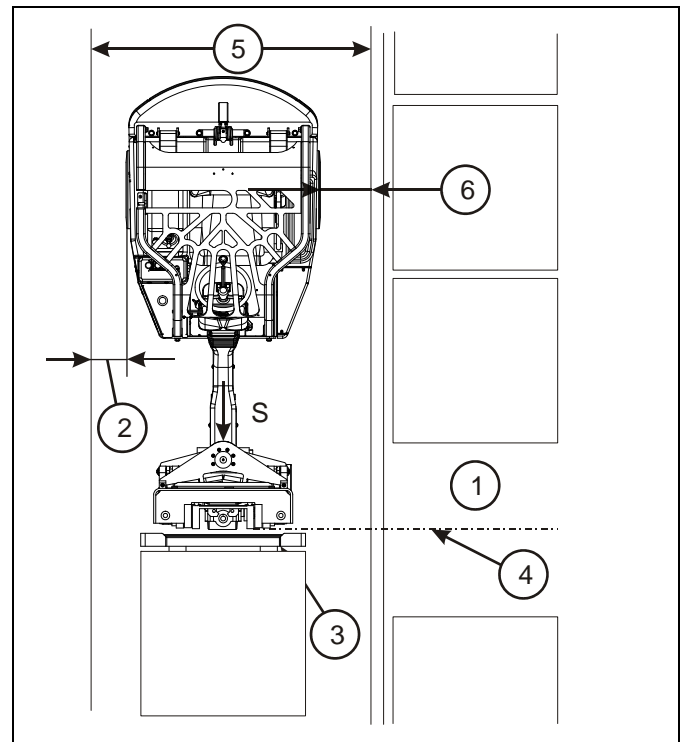

Figure 4-20: Setup - Delivering a Load
Actual minimum aisle width may vary based upon application. Item 5 - See Figure 4-20.
1. Approach the side of the aisle that is opposite the area where you will unload the forklift. Item 1 - See Figure 4-20. For narrow aisles, straighten out the truck so it is 6 in. to 8 in. from the edge of the aisle opposite the drop off point. Item 2 - See Figure 4-20.
2. For wide aisles, straighten out the truck so it is 36 in. to 48 in. from the side of the aisle where the load is located. Item 6 - See Figure 4-20.
4. See Figure 4-20. Drive forward until the front edge of the load wheels, items 3 and 4, are aligned with the center of the rack opening.